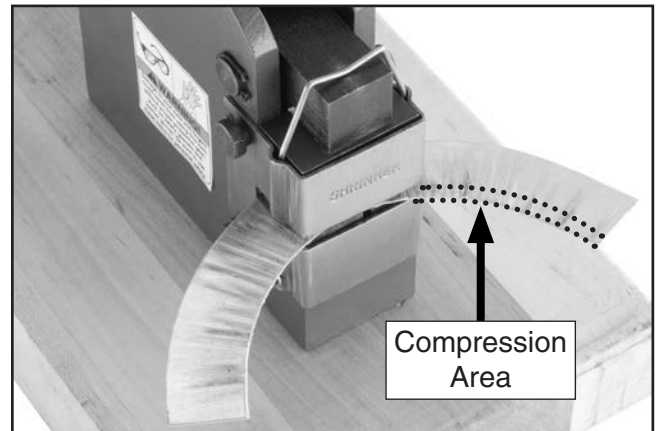

Figure 7. Shrinking a workpiece into a bend.
- Using the shrinker die, a curve in the metal is created by compressing the *inside* radius of a curve (see **Figure 7**).